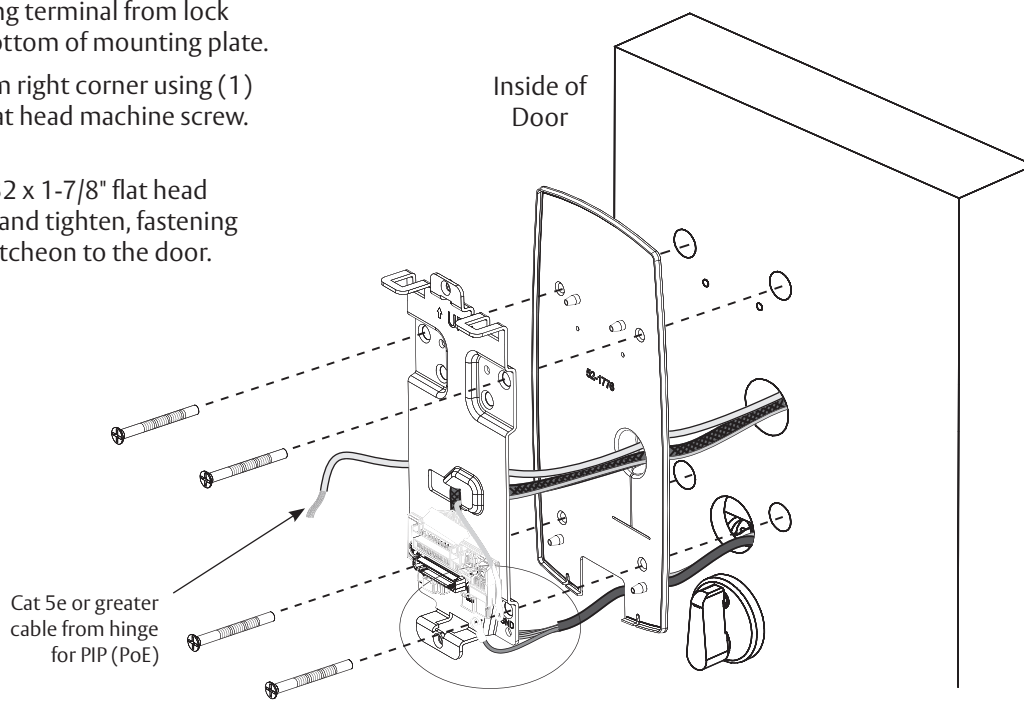

Figure 12a
2. Feed reader cable and ground ring terminal through central opening on mounting plate. (Figure 12a)
6. Insert three #8-32 x 1-7/8" flat head machine screws and tighten, fastening the outside escutcheon to the door. (Figure 12a)